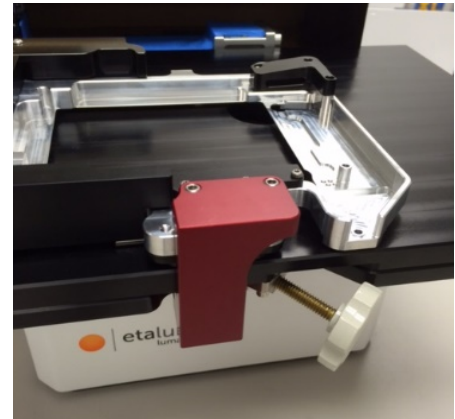
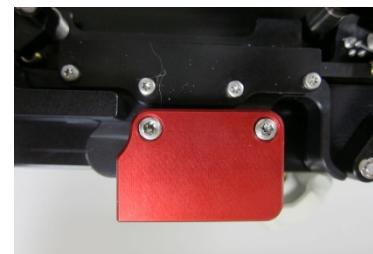

Fig 1. Shipping lock installed on LS720
Fig 2. Installed shipping lock from top showing 2 set screws
1. Fig. 1 shows how the LS720 arrives with the red shipping lock installed. Using the supplied 3 mm hex wrench, loosen the 2 set screws on the top of the installed shipping lock (Fig 2). Loosen the 2 set screws (smaller and more internal) on the bottom of the lock (Fig. 3).
5. Unplug the power and USB cable from the LS720. Slide shipping lock into position at front of deck just left of the Deck Knob (Fig 1) so the 2 holes in the shipping lock line up with 2 holes on the front underside of the deck. Screw in the two 1-inch screws (Fig 3) until tight using the supplied 3 mm hex wrench (official torque is 16 in-pounds).
6. Tighten the 4 set screws in the shipping lock with the 3 mm hex wrench until they are just touching the plate carrier, then tighten a further quarter turn (top 2 screws, Fig 2) and deck surface (bottom 2 screws, Fig 3). Do NOT over tighten. Set screw heads will be approximately even with shipping lock surface.